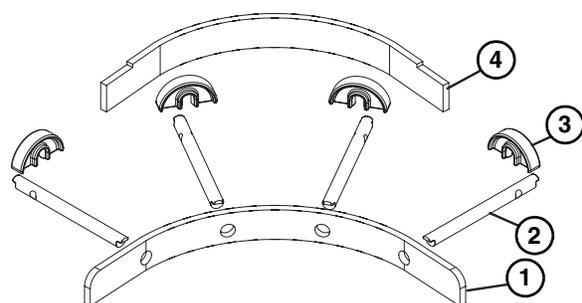

**Figure 32**
3. Insert the wear strips (**Figure 32, item 1**) into the appropriate slots in the frame (**Figure 32, item 2**), starting with the shortest wear strip on the inside of the curved section and working outward to the longest.